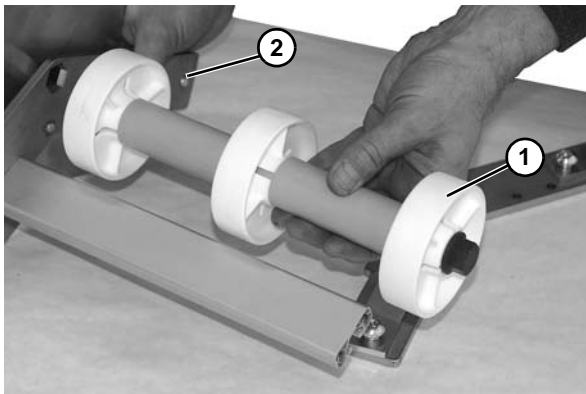

Figure 115
12. Remove roller assembly (**Figure 115, item 1**), from opposite end backing plate (**Figure 115, item 2**).